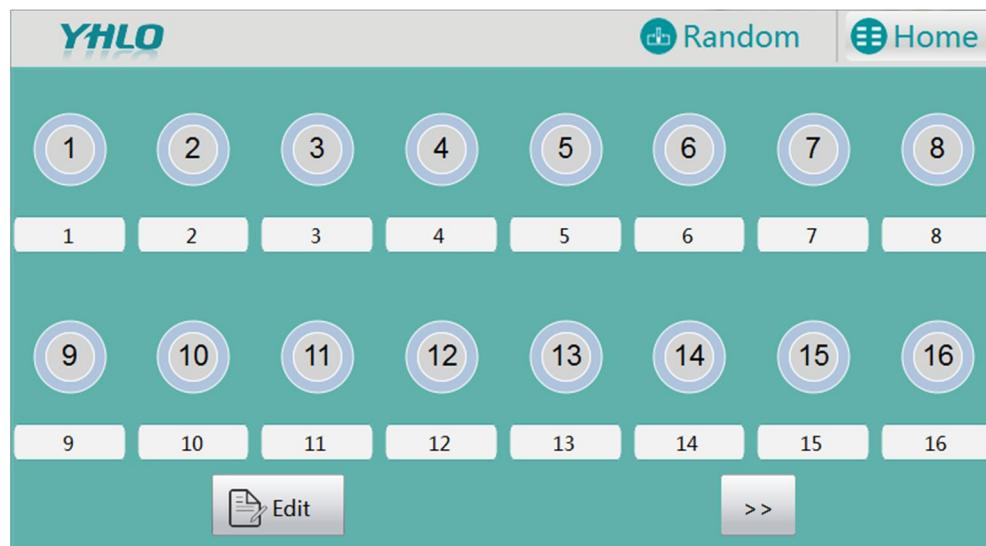

Fig. 4-2-2-1 Random Interface
- **Edit:** Click "Edit" to enter the interface shown in Fig. 4-2-2-2 and Fig. 4-2-1-3 below.